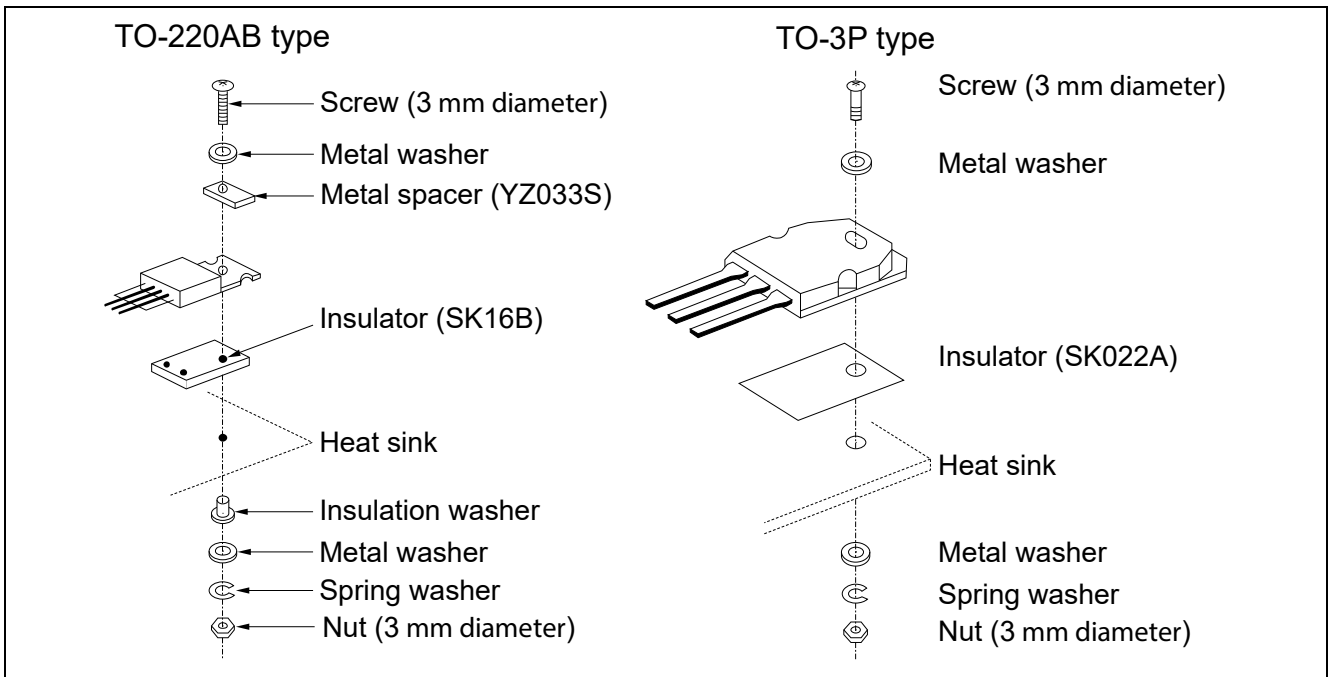

Figure 7 Examples of Power Device Installations
(9) Use the recommended parts (spacer, washer, lug terminal, screw, nut, etc.) for the semiconductor device installation (see figure 7).
(10) Use only suitable screws